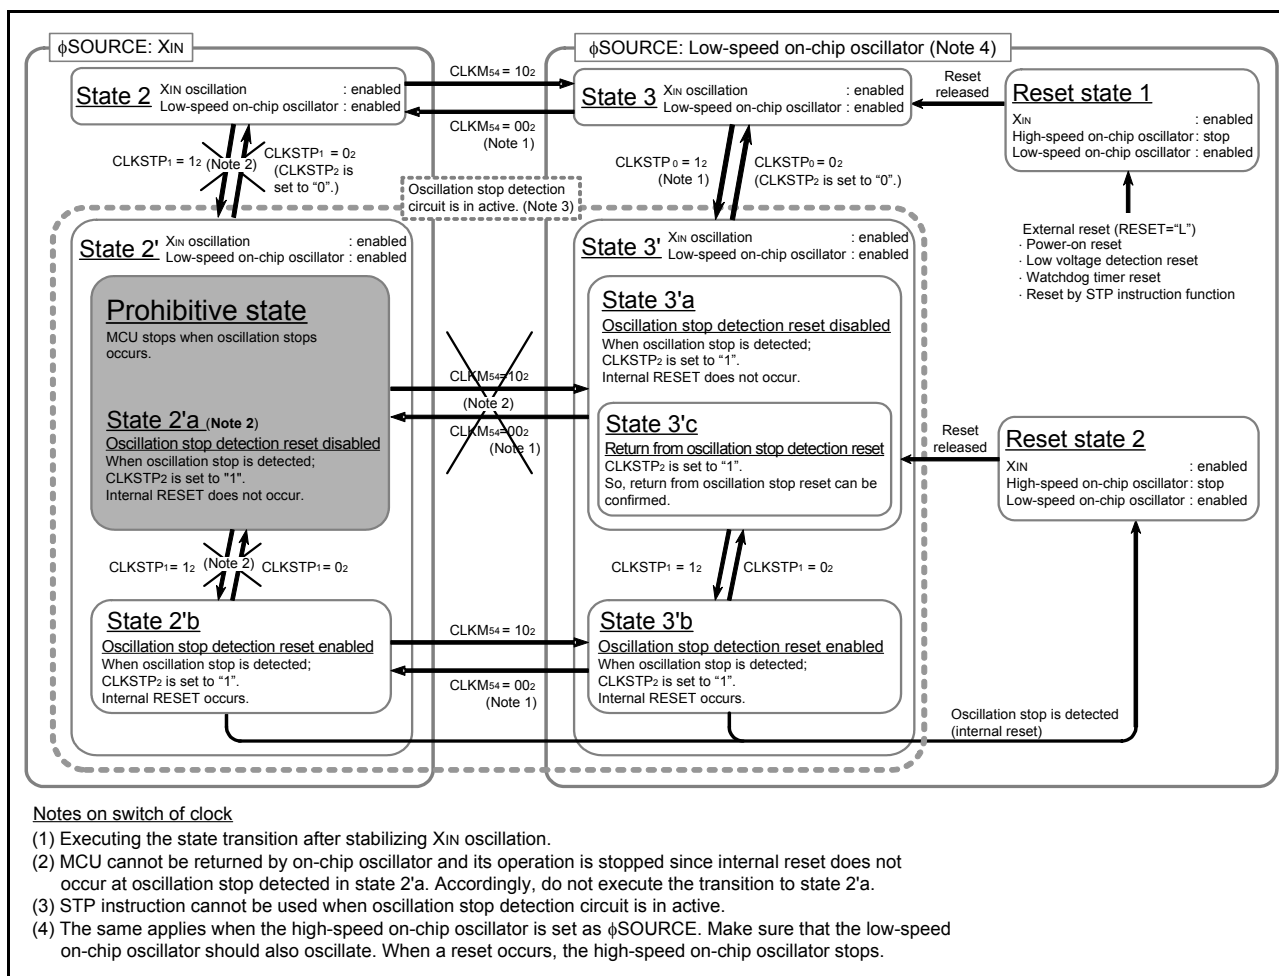

Fig 66. State transition of oscillation stop detection circuit
- (1) Do not execute the transition to "state 2'a" shown in Figure 66 because in this "state 2'a", MCU is stopped without reset even when XIN oscillation is stopped.
- (2) XIN oscillation stop detection function active bit is not cleared by the oscillation stop detection reset. Accordingly, the oscillation stop detection circuit is in active when system is released from internal reset cause of oscillation stop detection.
- (3) Oscillation stop detection status bit is initialized by the following operation.
- (4) The oscillation stop detection circuit is not included in the emulator MCU "M37549RLSS".